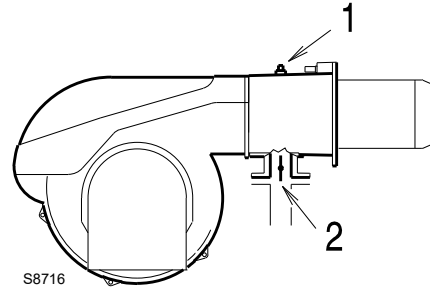

Fig. 23
Gas pressure measured at the test point 1)(Fig. 23), with:
Pressure loss at gas butterfly valve 2)(Fig. 23) with maximum opening: 90°.
- Subtract the combustion chamber pressure from the gas pressure measured at test point 1)(Fig. 23).
$$\begin{aligned} \text{Gas pressure at test point 1)(Fig. 23)} &= 17.0 \text{ mbar} \\ \text{Pressure in combustion chamber} &= 3.0 \text{ mbar} \\ 17.0 - 3.0 &= 14.0 \text{ mbar} \end{aligned}$$
To know the required gas pressure at test point 1)(Fig. 23), set the maximum output required from the burner operation, then:
- Read, on the right (column 1) the socket pressure 1)(Fig. 23).
pressure required at test point 1)(Fig. 23).